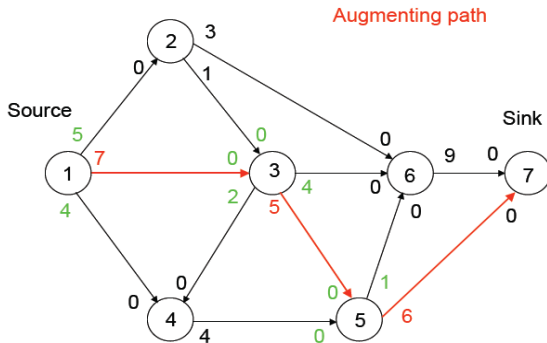

Figure 3
**Augmenting path** is a path from the source to the sink in the residual network such that **every arc on this path has strictly positive residual capacity** (see Figure 3).